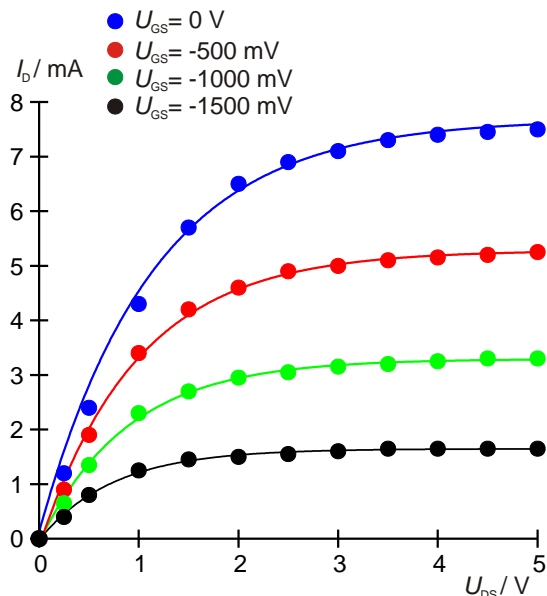

Fig. 5: Characteristic curves for a field effect transistor at various gate voltages.
- Plot a graph of I_D against U_{DS} for each of the various gate voltages (Fig. 5)